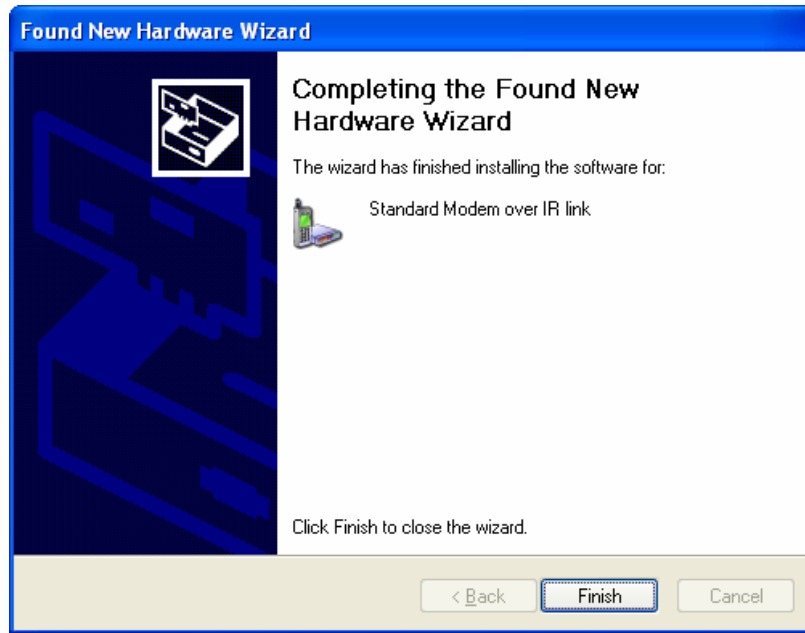

Figure 11 : 'Found New Hardware Wizard' completed
- Once the wizard completed the installation (Figure 11), click **Finish** to close the wizard.